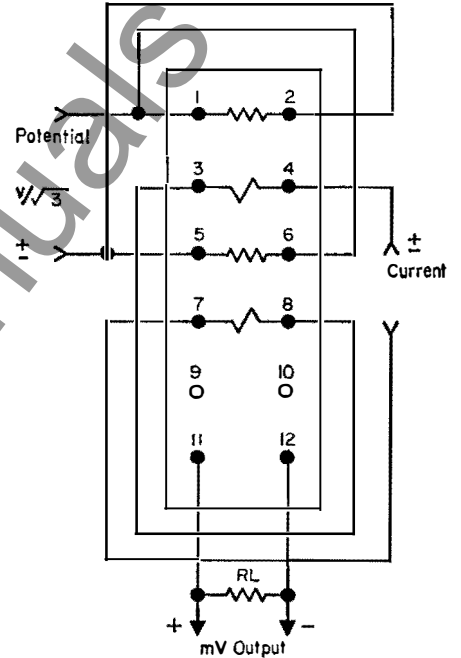

Figure 16: 3-phase, 3-wire single-phase test connections.
**2-element three-phase** three-wire transducers are calibrated by connecting them as shown in Figure 16 to a source of single-phase voltage and current at unity power factor. Disconnect the current from terminals 7 and 8 and adjust the current to give the required single-phase, opposed-potential calibration watts. Adjust the rheostat between terminals 5 and 6 to get one-half of the desired full-scale millivolt output. Reconnect the current to terminals 7 and 8. Again adjust the current to get the required single-phase opposed-potential calibration watts. Adjust the rheostat between terminals 9 and 10 to get full-scale millivolt output.